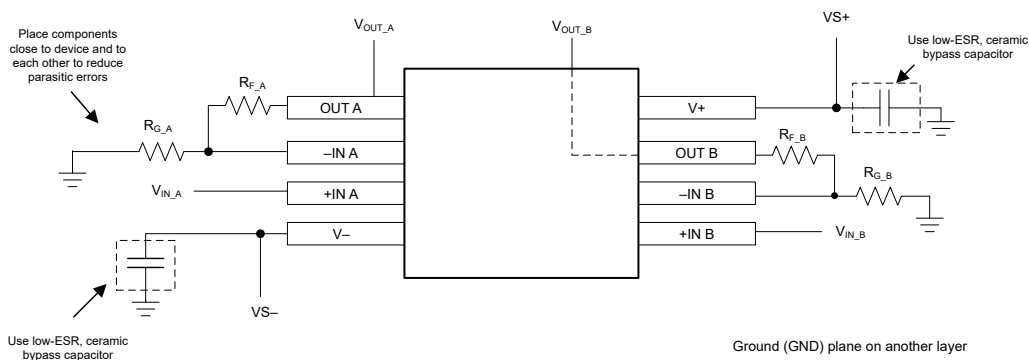

Figure 7-9. Operational Amplifier Board Layout for Noninverting Amplifier Configuration
- Place the external components as close as possible to the device. As Figure 7-9 shows, keep the feedback resistor (R3) and gain resistor (R4) close to the inverting input to minimize parasitic capacitance.